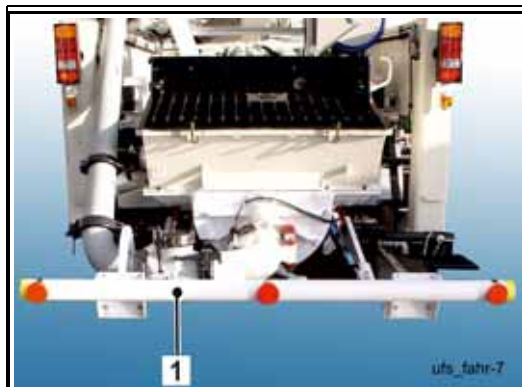

Fig. 59 Underride protection in transport position
The underride protection (1) is in the drive position (**Fig. 59**).